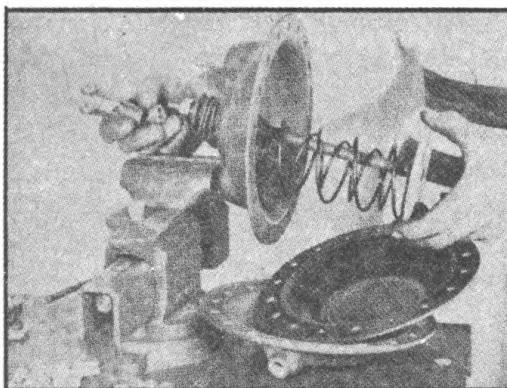

FIGURE 30. BRAKE CHAMBER
(1) Follow the procedure outlined above for the disassembly of the brake chamber.
(2) Remove the brake push rod and install the new spring. Make sure the spring is seated properly on push rod plate (Figure 30).
(3) Bent or worn pressure plates should be replaced.
(4) Slightly bent brake push rods may be straightened; if severely bent, they should be replaced.
(5) Worn boots should be replaced.